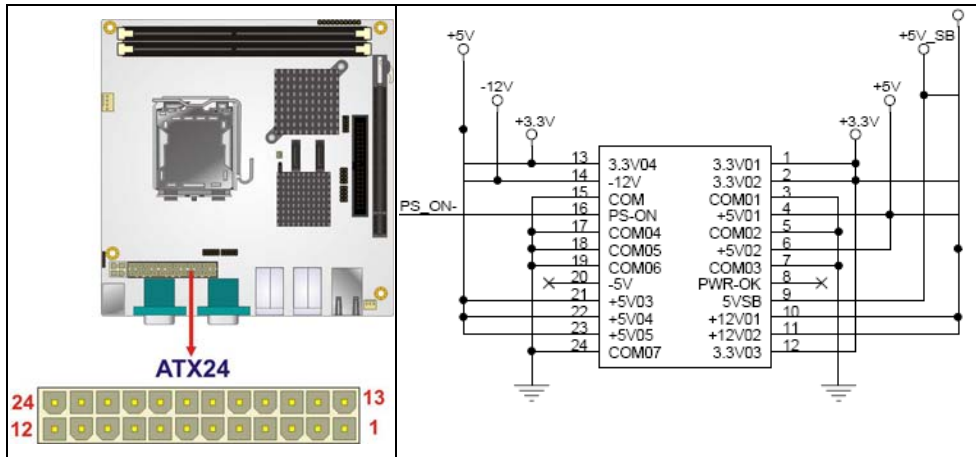

Figure 4-10: Power Connector Location
- CN Location:** See Figure 4-10